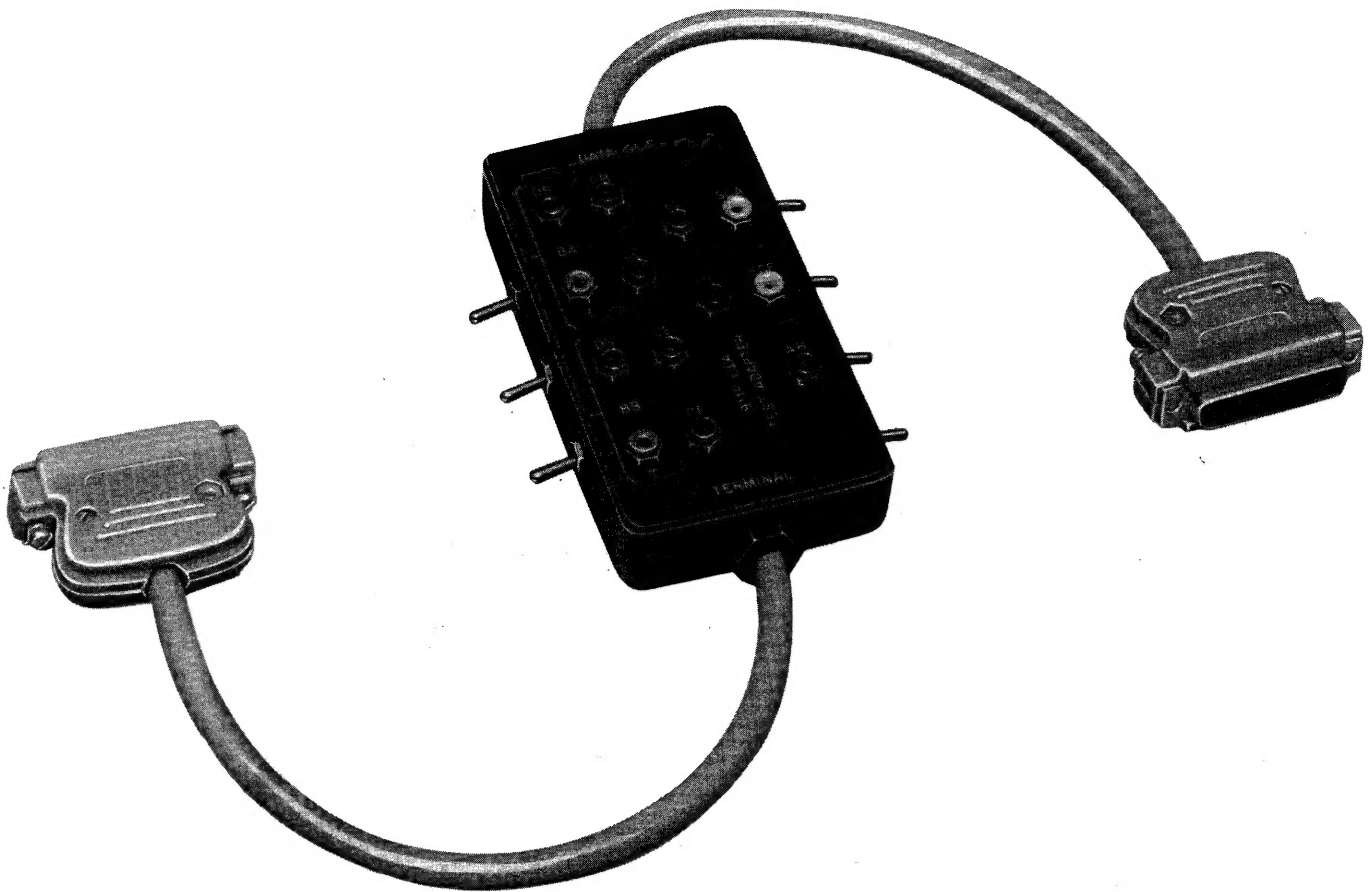

Fig. 2—911P EIA Test Adapter
1.06 A 911P EIA test adapter (Fig. 2) may be used in conjunction with the DTS to aid in accessing the data set EIA interface when testing. The cords used for connection between the DTS and the 911P are provided with the DTS; however, the 911P must be ordered separately.